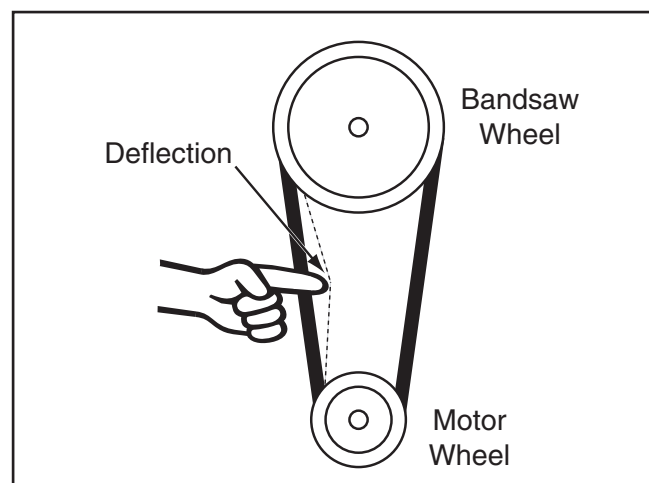

Figure 96. V-belt deflection.
4. Push the center of the V-belt. Note the amount of deflection (**Figure 96**). If deflection is more than $\frac{3}{4}$ ", re-tension the V-belt.